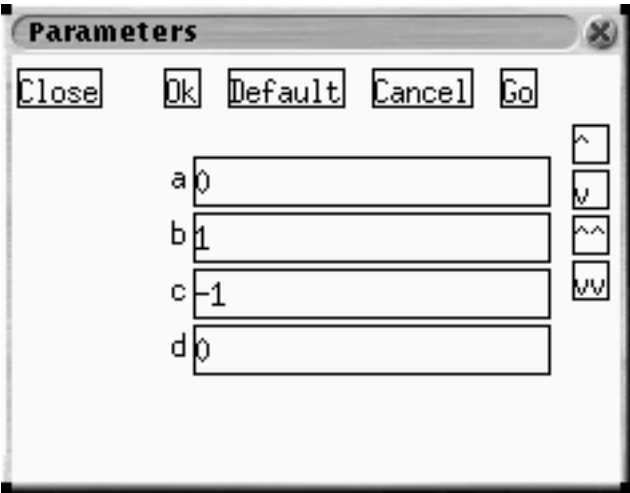

Figure 2.6. The parameter window.
- (1) From the **Main Window**, click on Parameters. In the command line of the **Main Window**, you will be prompted for a parameter name. Type in the name of a parameter that you want to change. Click on Enter to change the value and Enter again to change another parameter. Click on Enter a few times to get rid of the prompt.
- (2) Bring up the **Parameter Window** by clicking on the turquoise Param button at the top of the **Main Window**. In the **Parameter Window** (shown in Figure 2.6), type in values next to the parameter you want to change. Use the scroll buttons or the keyboard to scroll around. As in the **Initial Data Window**, there are four buttons